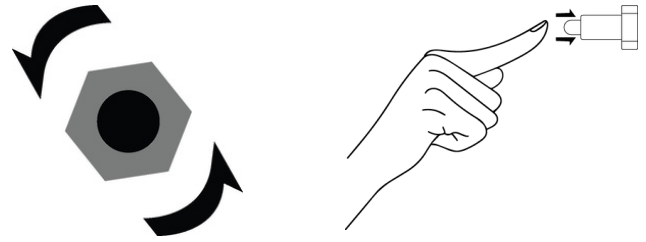

Fig 2.
- Once the cabinet has cooled down, turn the black or red knob anti-clockwise. **(Fig 2)**